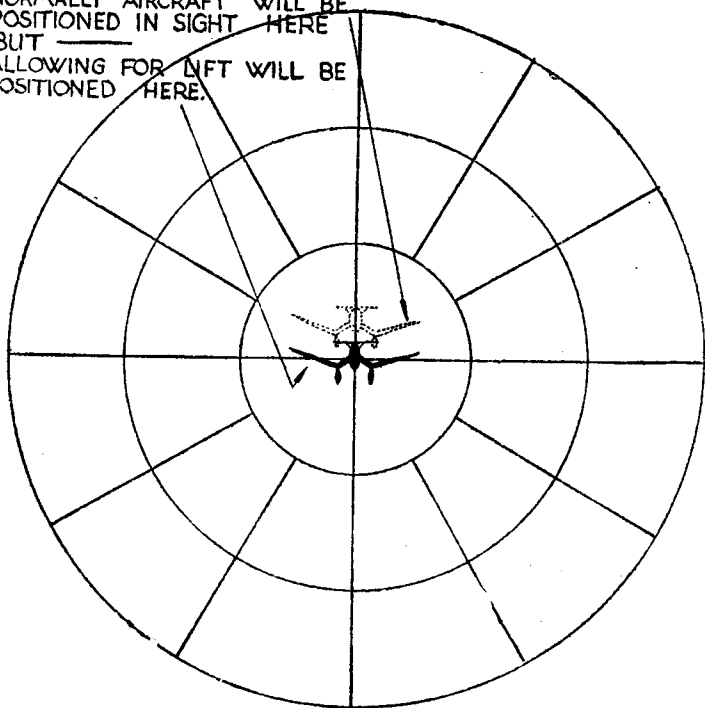

FIG. 14.—Ju. 87B—diving "short"—300 speed group.
- (c) *Diving short.* In this case the gunner will see rather more of the top of the fuselage than in a "head-on" view. (See Fig. 14.)